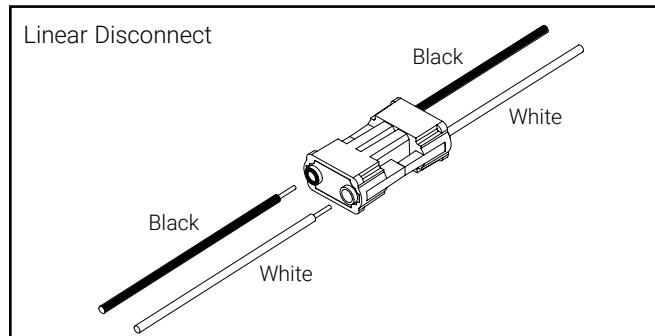

Figure 4.
5. Make necessary wiring connections to driver AC line input. A Linear Disconnect is provided to speed installation (Figure 4). Optional DALI or 0-10V dimming circuits are wired. See Wiring Diagrams \*